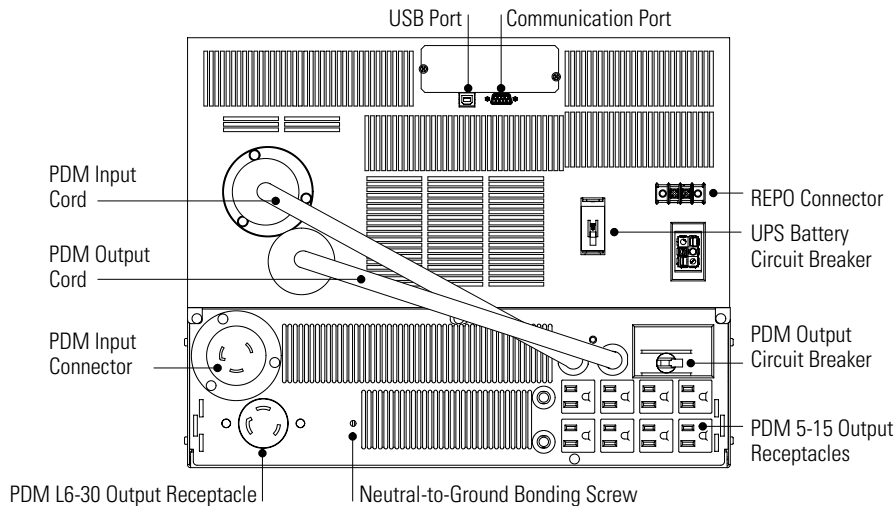

Figure 15. UPS and Plug-Receptacle PDM Installation (L6-30 Model Shown)
2. Verify that the PDM output circuit breaker is in the OFF position (see Figure 15 on page 30).
5. **Neutral-to-Ground Bonding.** The PDM has a neutral-to-ground (N-G or neutral-to-earth) bonding screw as required under safety regulations issued by various regulatory agencies (see Figure 15). If the neutral-to-ground connection is not needed, remove the screw to remove the bond between neutral and ground.
6. Plug the input and output cords of the PDM into the input and output power connectors on the UPS rear panel (see Figure 15).
5. Disconnect the PDM input and output cords from the UPS. See Figure 15 on page 30.
2. Plug the input and output cords of the PDM into the input and output power connectors on the UPS rear panel (see Figure 15 on page 30).